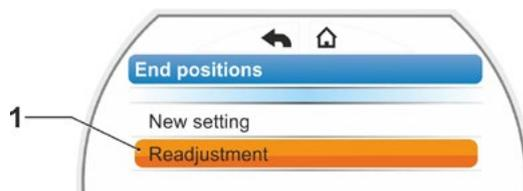

Fig. 1: End position readjustment
- Confirm 'Readjustment' menu item (fig. 1, item 1).